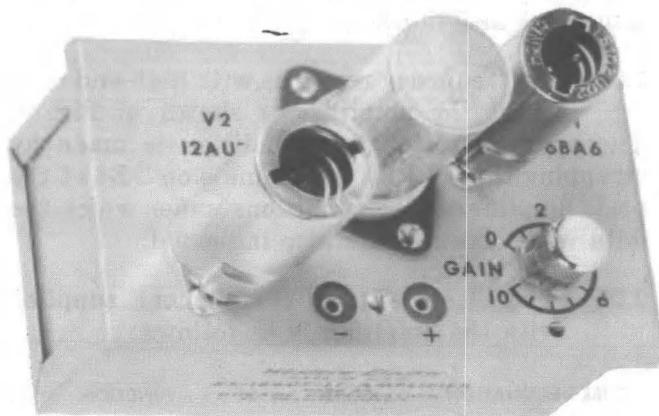

Fig. 1 — KS-16607, L1 Amplifier
1.01 This practice provides a description of a small, optional plug-in preamplifier used with the KS-16608, L1 and KS-16610, L1 Amplifiers. The latter are basic amplifiers and are discussed in detail in other sections in this division of practices. The preamplifier is designed to plug into an octal tube socket on the basic amplifier chassis. Hence, soldered or other external connections are not required for its use. A photograph of the amplifier is shown in Fig. 1.